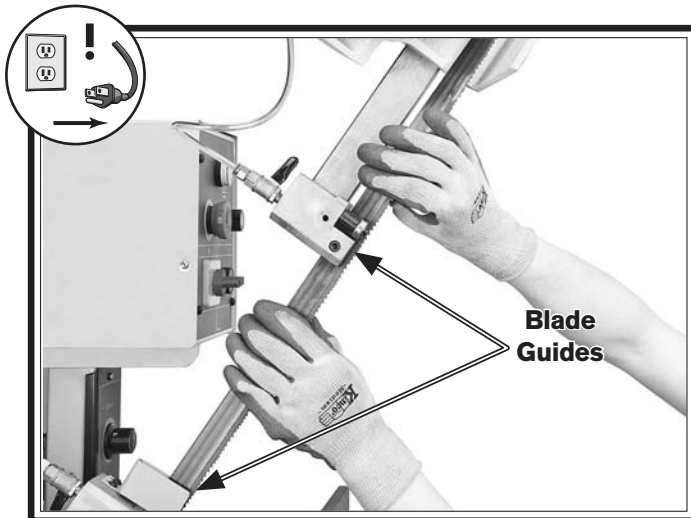

Figure 20. Typical blade installation.
4. Install the new blade through both blade guides, as shown in **Figure 20**, and around the bottom wheel.